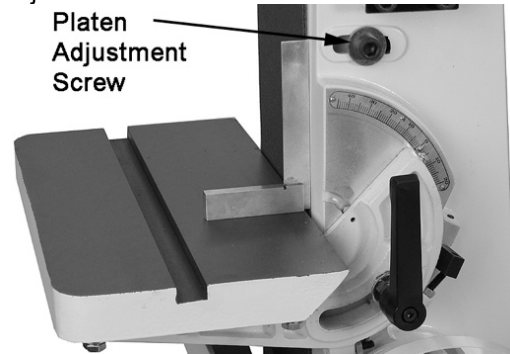

Figure 29
1. Loosen platen adjustment screw (see Figure 29).